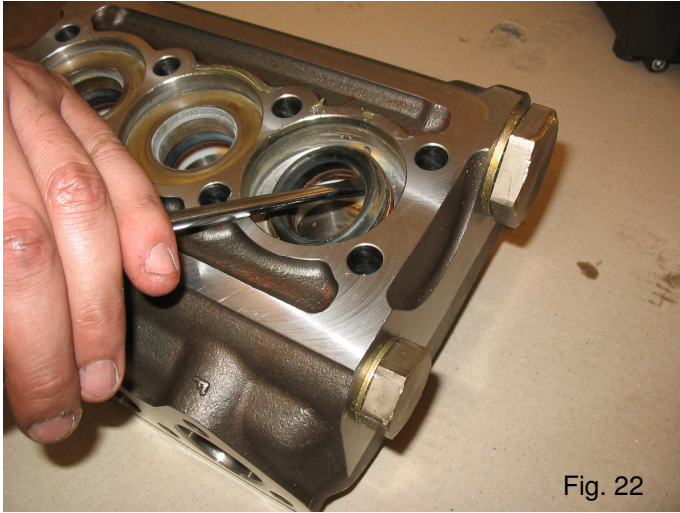

Fig. 22
- B) Remove the high pressure packings from the fluid end and the low pressure ones from their support by means of standard tools, taking great care not to damage the seats. Fig. 22